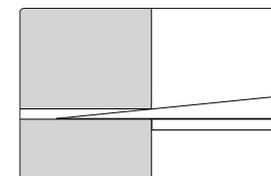

fig.5
--- Input the taper gage into the gap of the workpiece to be measured, make the measuring surface and the workpiece surface completely coincided (fig.5).